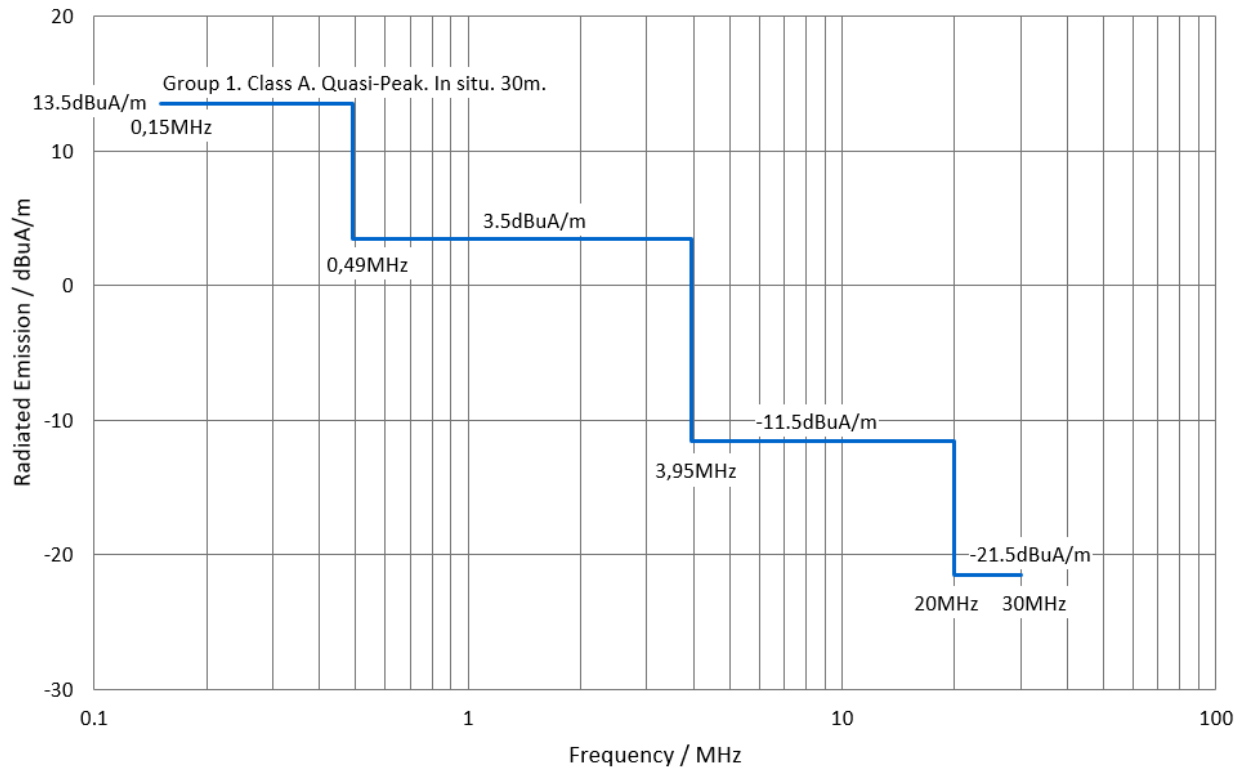
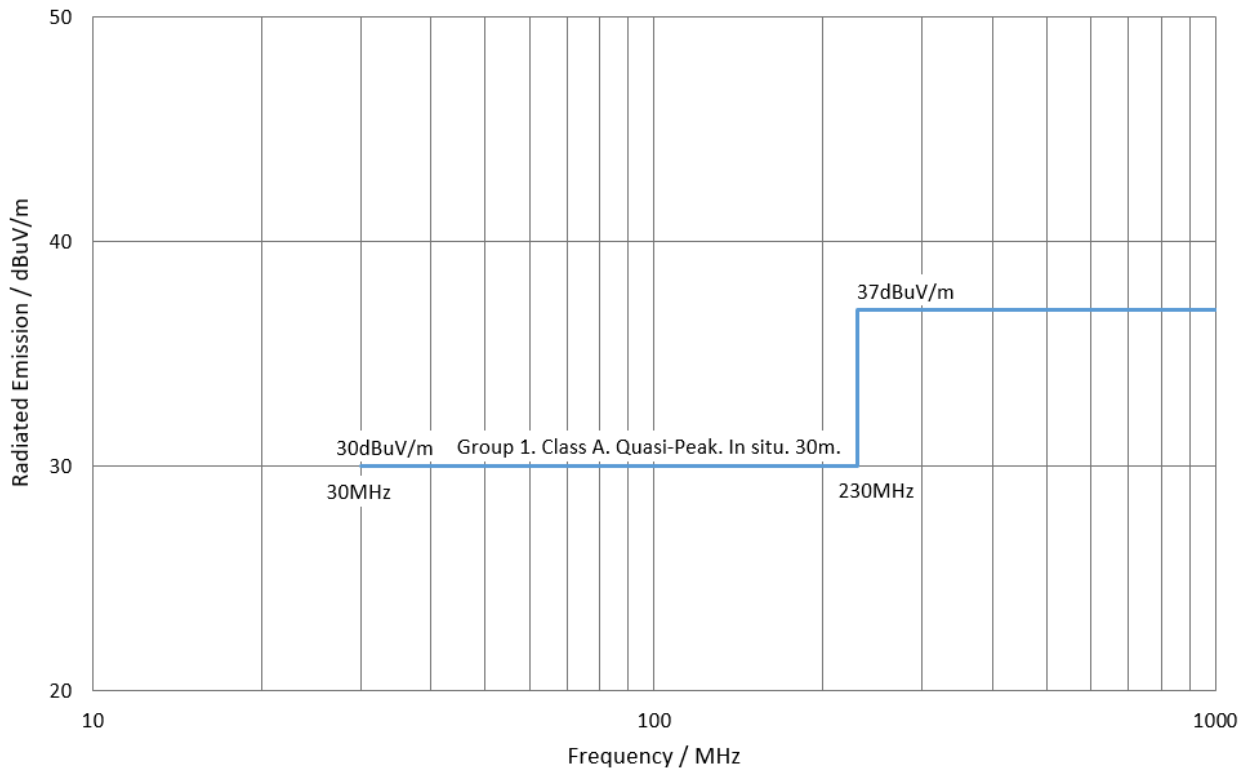

Figure 3: 150kHz to 30MHz. Magnetic field radiation limits - Group 1 Class A (in situ, 30m distance)
Figure 4: 30MHz to 1000MHz. Electric field radiation limits - for Group 1 Class A (in situ, 30m distance).
Limits on conducted emission in situ (at installation site) are shown in Figure 3 and Figure 4. Under in situ conditions, an assessment of conducted disturbances is not required. Although, the reduction of the conducted emission at situ always increases the power quality of the system and this is the main objective of installing the Elesol. However, there are some limits on radiated emissions as:
- 150kHz to 30MHz. Magnetic field radiation limits - Group 1 Class A (Figure 3)
- 30MHz to 1000MHz. Electric field radiation limits - for Group 1 Class A (Figure 4).